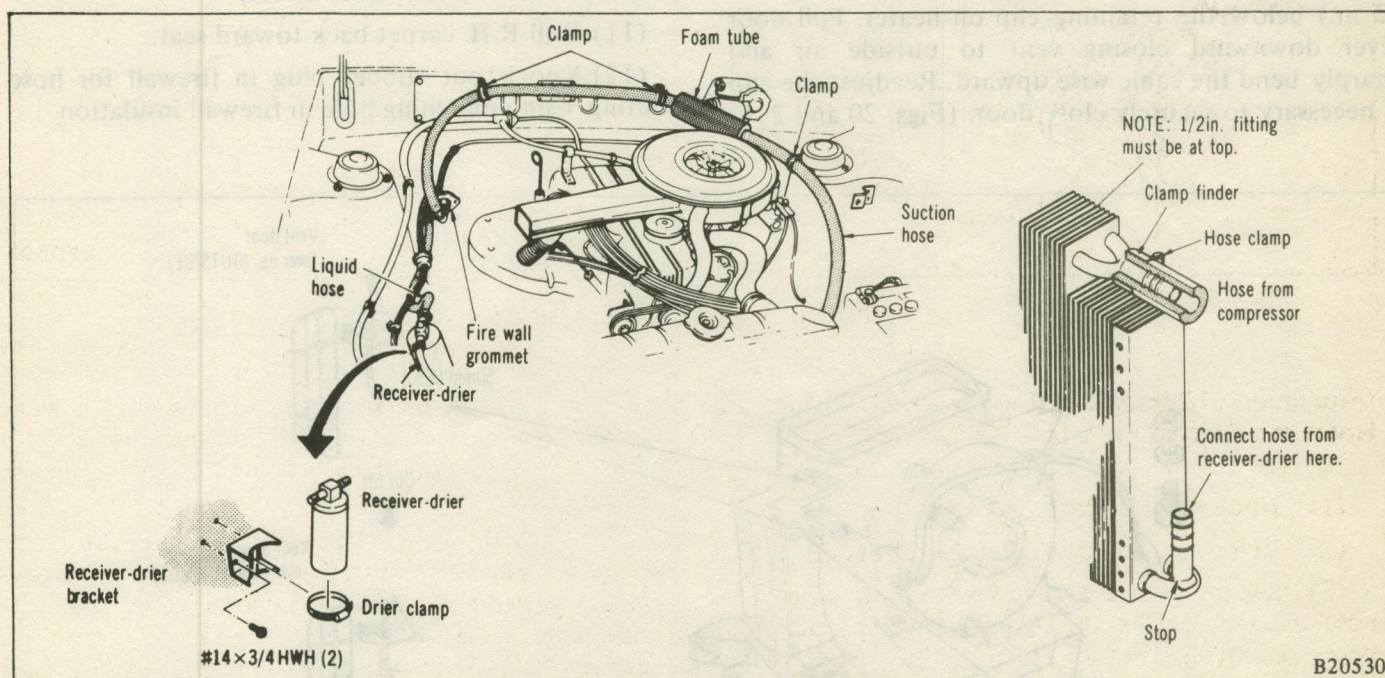

Fig. 18 Refrigerant Hoses Installation
(21) Rotate the headlight switch 180 degrees if necessary so wire connector will clear the L.H. duct. It also will be necessary to properly orient the Light Knob.
(22) Reinstall L.H. louver and headlight switch panel. Be sure louver fits into duct.
(23) Reinstall glove box and louver panel. Be sure louver fits into duct.
(24) Connect refrigerant hoses to proper evaporator connections (engine side). Be sure to use refrigerant oil on all fittings and a backup wrench before tightening. Fig. 18 for proper hose routing.
(25) Install firewall grommet over refrigerant hoses and secure to firewall using 2 #8 x 1/2 SMS.
(26) Fold carpet back and cut an X in location over drain hole in firewall. Install drain hose using clamp on evaporator. Extend drain hose 50 mm (2 in.) inside engine compartment and install the 90° elbow pointing down. Use a 50 mm (2 in.) piece of drain hose on 90° elbow and insert the drain restrictor in the end.
(27) Evacuate the system and reconnect battery. Charge with 900 g (32 oz.) R-12. Install high pressure switch at compressor.